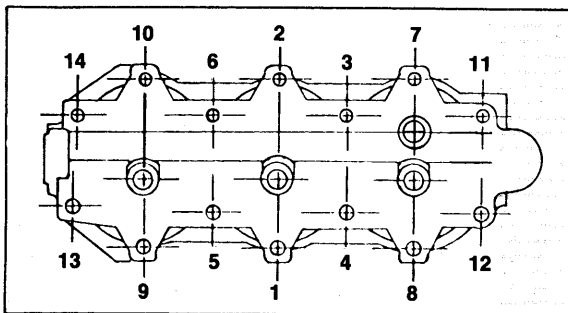

Figure 1—Torquing Sequence
- Follow torquing sequence as shown in figure 1.